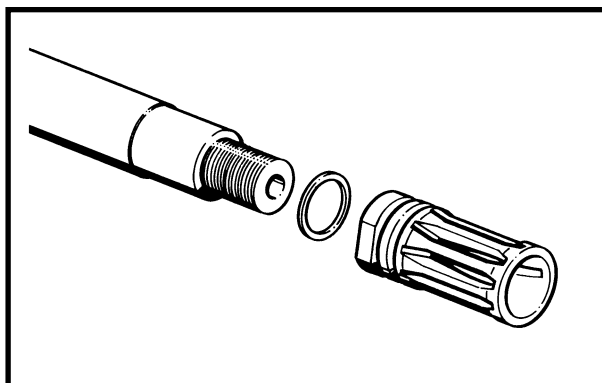

Figure 3-2-17 Removing the Compensator and Compensator Spacer
- (3) Remove the compensator and compensator spacer. See Figure 3-2-17.